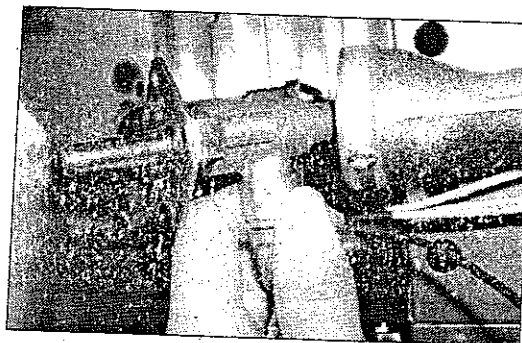

Fig 24
3. Carefully insert the valve assembly into the cast burner. You will need to angle the tube into the burner assembly. Then pull the valve stem out from the opening in the front of the side burner shelf and remove. (See Fig. 24)